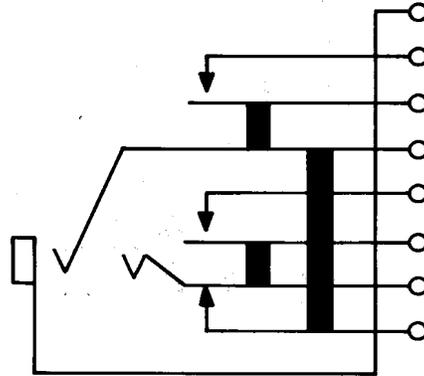

Fig. 13—449C Jack
2.11 **449C:** This single mounted jack (Fig. 13) is used with the 425A-3 plug.